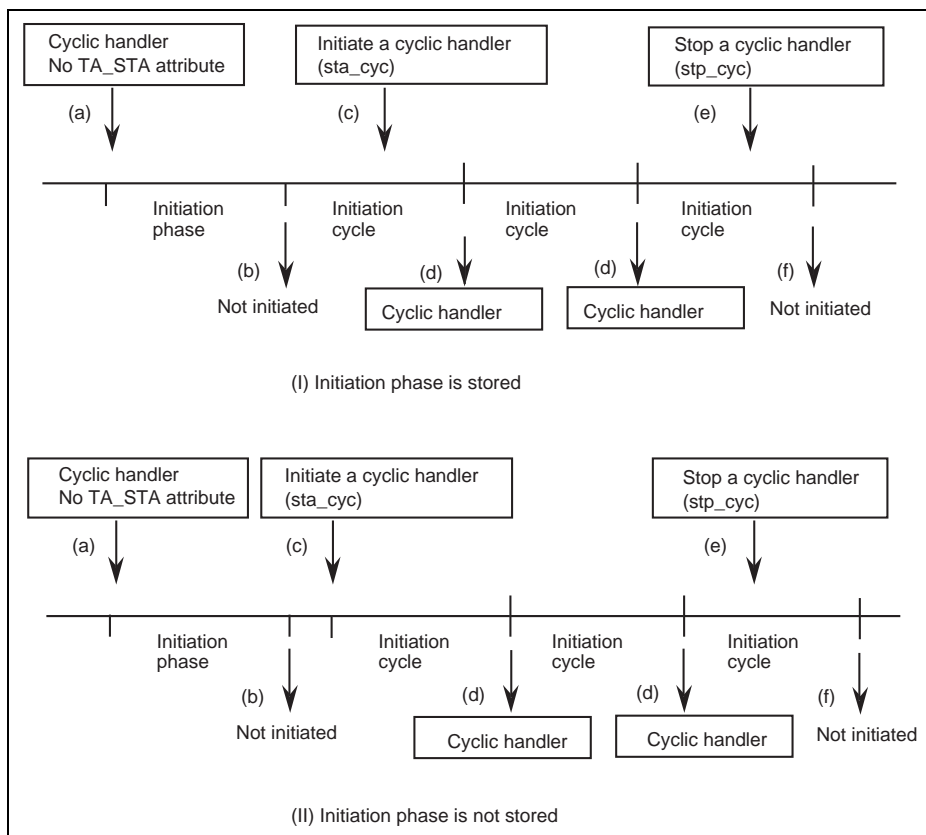

Figure 4.10 Example of Using Cyclic Handler
There are two methods to initiate the cyclic handler; storing the initiation phase, and not storing the initiation phase. In storing the initiation phase, the cyclic handler is initiated based on the timing when the cyclic handler is initially defined. In not storing the initiation phase, the cyclic handler is initiated based on the timing when operation of the cyclic handler is started. Figure 4.10 shows an example of using a cyclic handler.
- (d) When the initiation phase is stored as shown in (I) in Figure 4.10, the cyclic handler is initiated based on the initiation cycle after the cyclic handler has been initially defined. When the initiation phase is not stored as shown in (II) in Figure 4.10, the cyclic handler is initiated based on the initiation cycle after the sta_cyc service call has been issued.